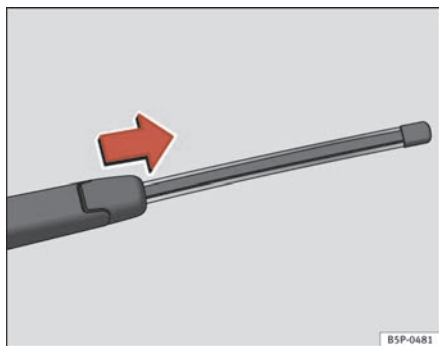

Fig. 162 Remove rear window wiper blade
- Lift the wiper arm away from the glass ⇒ page 225, fig. 162.
- Slide the blade adapter in the direction of the arrow and remove the blade ⇒ page 225, fig. 162.